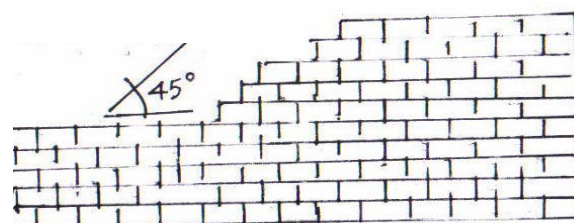

Fig 15 - **Part completed brick work**
- Made sure that whenever brickwork cannot be raised uniformly all over simultaneously, the brickwork should be constructed at a rake at an angle not exceeding 45 degrees (See fig. 15)